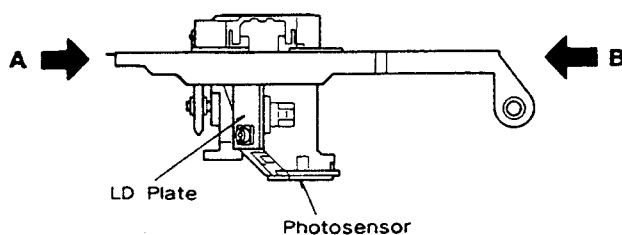

Fig.4-1
- (1) Do not apply shocks to the assembly.
- (2) Do not touch the object lens.
- (3) Do not place the assembly in a place subject to excessive dust, heat or moisture.
- (4) Do not disassemble.
- (5) During the transportation, mounting and dismounting of the assembly, support it with your fingers at points A and B as shown in Fig. 4-1. Be particularly careful not to touch the actuator, the photosensor and the LD plate, and do not apply force to them.
- (1) 落下、衝撃を加えない。
- (2) 対物レンズには手を触れない。
- (3) ゴミ・埃の発生する場所、高温・多湿の場所を避ける。
- (4) 分解はしない。
- (5) 持ち運び、取り付け、取り外しの際は、Fig.4-1のAとB部で支えてください。